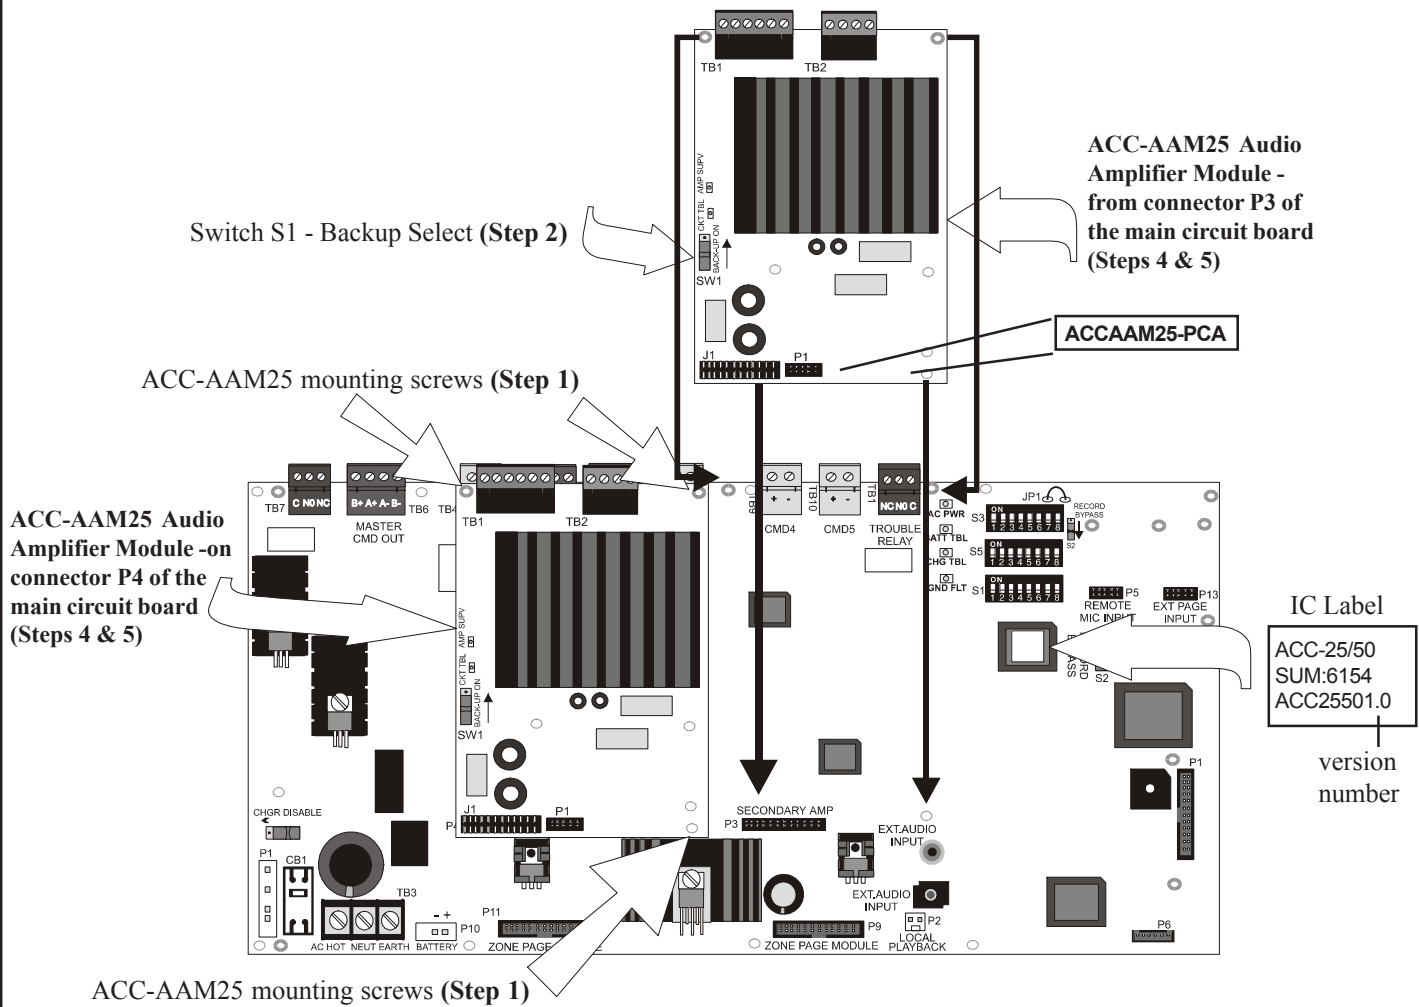

Figure 3: Main Circuit Board
- Main circuit board identified by software version ACC25501.0 or higher (refer to Fig. 3)